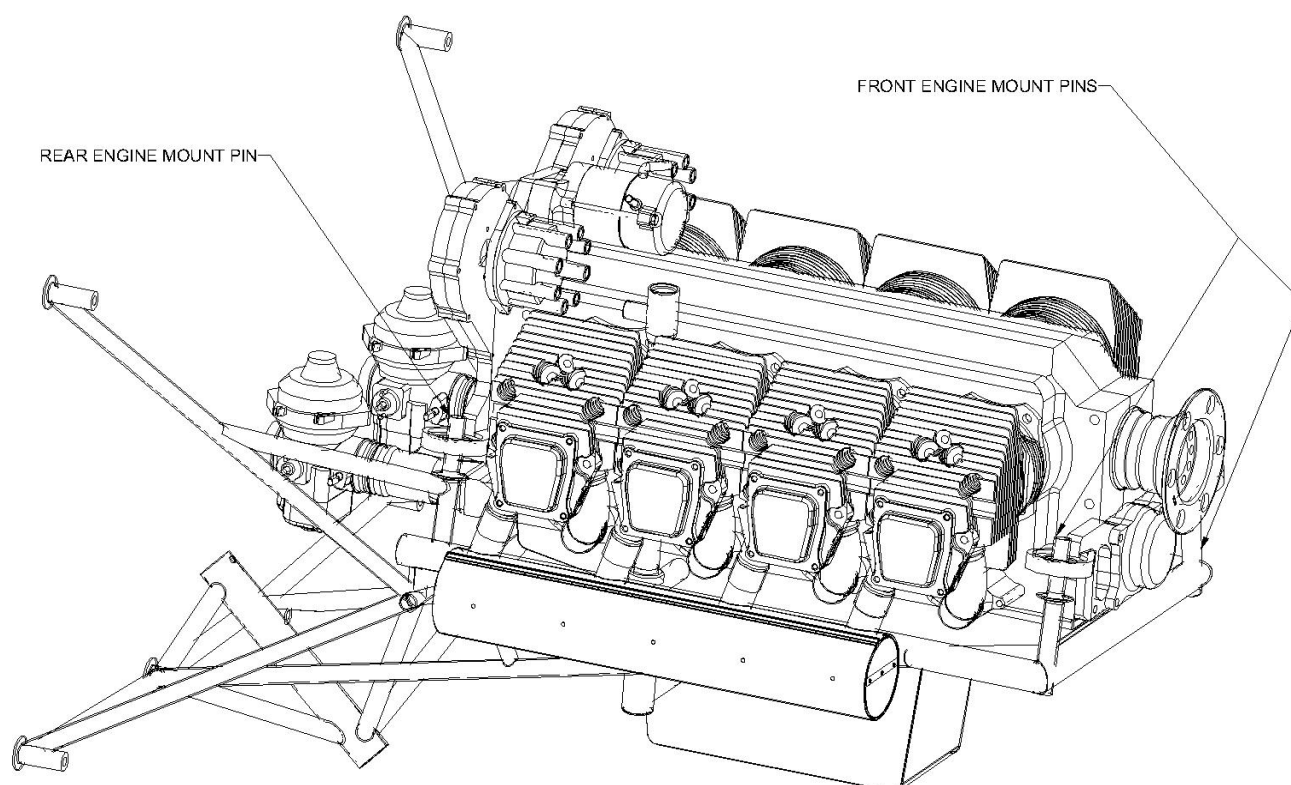

Figure 4. Engine Mount Point Locations
- The mount must position the engine at the right place. The weight of the engine is a very significant part of the overall aircraft weight, and its position must be calculated to place the centre of gravity of the aircraft (CG) in the right spot.
- The final design of the engine mount is a compromise, and sometimes special parts will be required to make it work. Figure 4 shows the installation of a Jabiru 8-cylinder engine into a Van's RV-6. To give a good CG location the engine had to be mounted as close to the firewall as possible. This meant that custom air intake tubes had to be developed to get the intake air to the carburettor with a minimum disturbance and turbulence.
- Each engine mounting point is rubber mounted to damp the engine vibrations. The correct installation of these rubbers is shown below in Figure 4. 5.